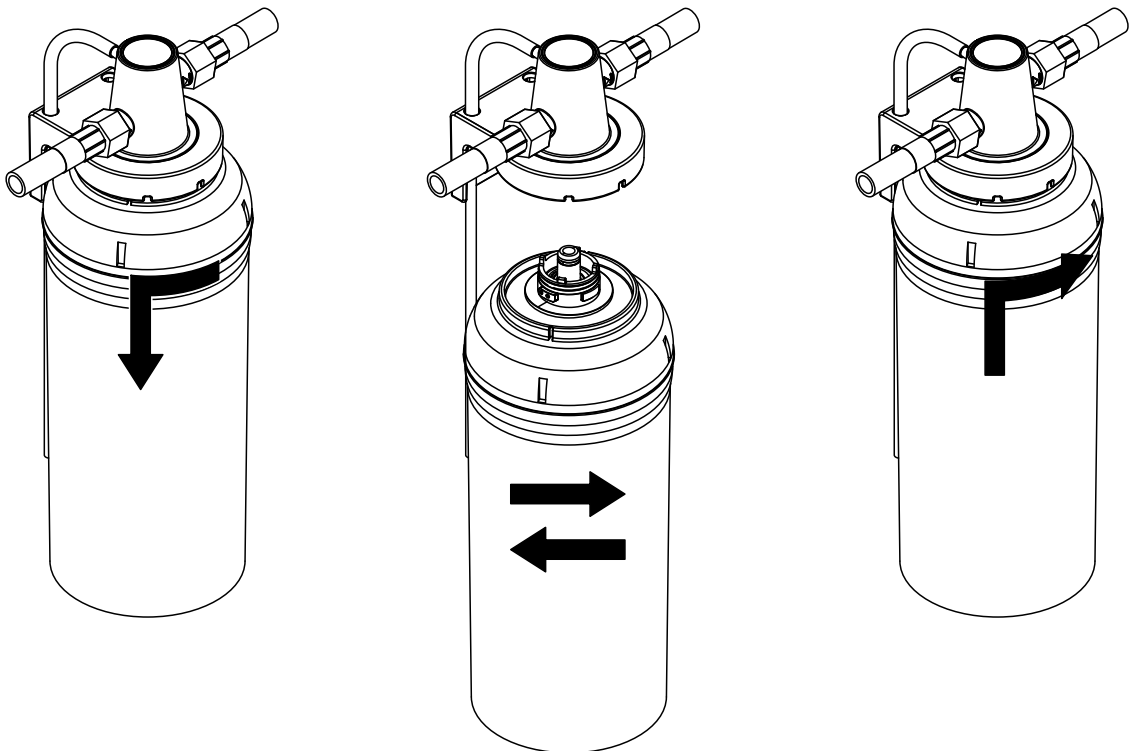

Fig. 18: Replacing the filter cartridge
4. Hold the filter cartridge firmly with both hands on the circumference, so that it does not fall down during removal. Then, carefully turn filter cartridge in the direction of the arrow as shown in Fig. 18 left until it comes to a stop (approx. 45 °) and remove filter cartridge.
7. Simultaneously push filter cartridge upwards and turn it until the filter cartridge engages into the bayonet catch in the filter head. Then, while slightly pushing the filter cartridge upwards turn filter cartridge in the direction of the arrow as shown in Fig. 18 right into the filter head until it comes to a stop (approx. 45 °).